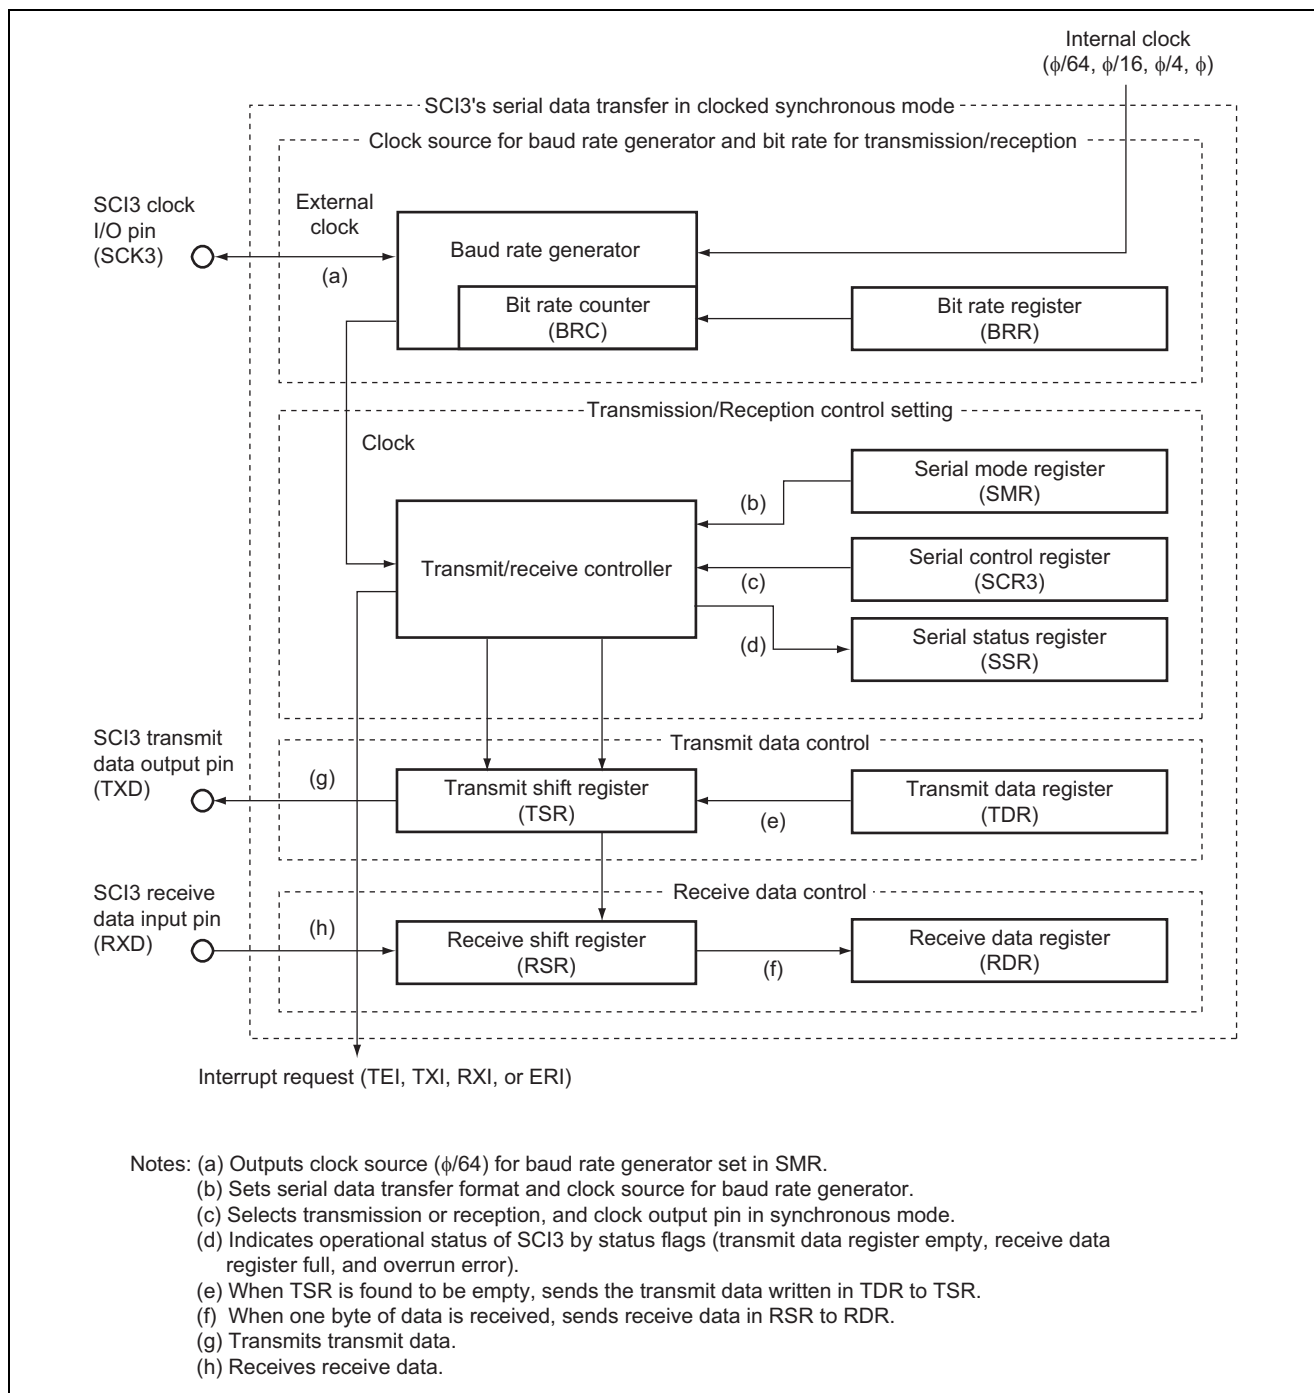

Figure 2 Simultaneous Serial Transmission/Reception in Synchronous Mode
1. In this sample task, serial data is simultaneously transmitted and received in synchronous mode via the serial communication interface (SCI). Figure 2 is a block diagram of simultaneous serial transmission/reception in synchronous mode. The elements of the block diagram are described below.